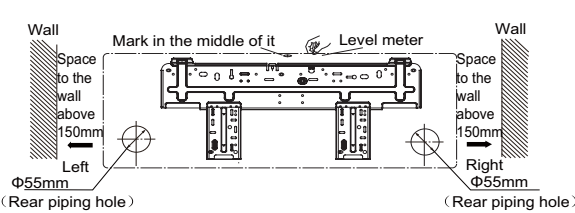

Fig.1
(3) Fix the wall-mounting frame on the wall with tapping screws (ST4.2X25TA) and then check if the frame is firmly installed by pulling the frame. If the plastic expansion particle is loose, please drill another fixing hole nearby.
(4) Choose the position of piping hole according to the direction of outlet pipe. The position of piping hole should be a little lower than the wall-mounted frame.(As show in Fig.1)
(1) Choose the position of piping hole according to the direction of outlet pipe. The position of piping hole should be a little lower than the wall-mounted frame.(As show in Fig.1)